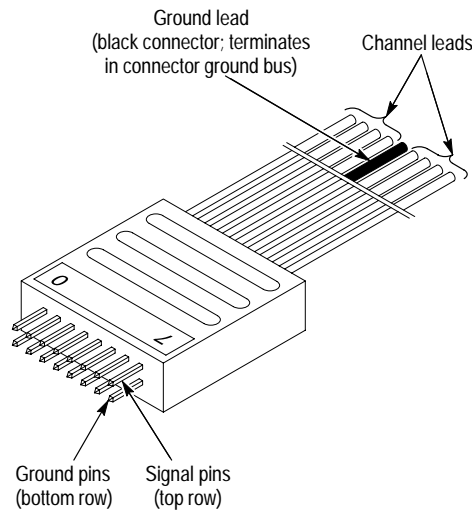

Figure 3: Eight-channel leadset connector
2. Connect the logic analyzer probe leadsets to the accessory leadset connectors. See Figure 3.